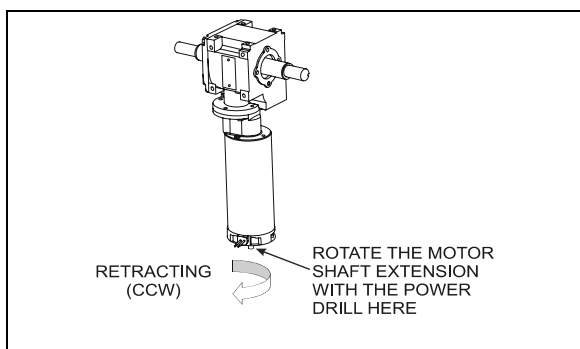

FIGURE 92: SLIDE-OUT MOTOR ROTATION
5. Rotate the slide-out motor shaft extension with the power drill until the slide-out comes to its closed position (FIGURE 92).